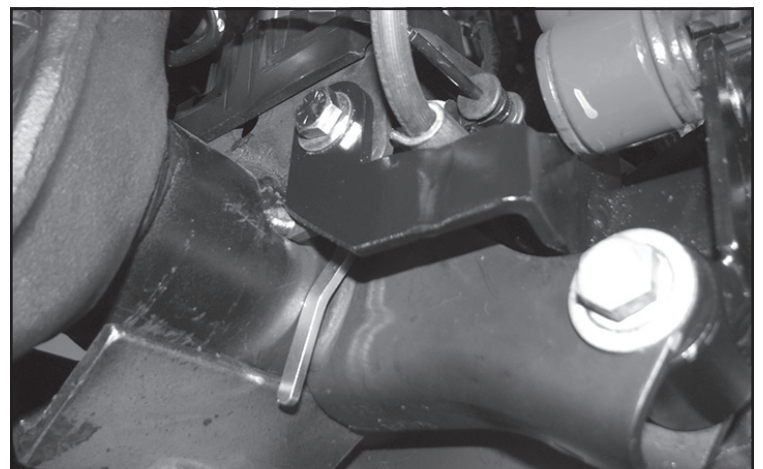

FIGURE 17 - STEP 17
17. Reinstall the lower brake line bracket using the supplied 3/8" x 1-1/4" bolt, washer and FT83105 (Nut tab). Install the hardware through the new lower shock extension bracket and the nut tab on the back side. Torque factory hardware to 100 ft-lbs. and 3/8" 52 ft-lbs. **SEE FIGURE 17. Repeat steps 15-17 on passenger side.**